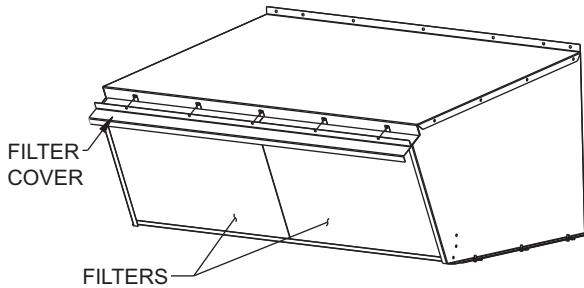

Fig. 37 — Slide Two Filters
14. Slide two 20 x 25-in. filters into cross members of hood assembly. Attach filter cover over filters with screws and speed clips provided. See Fig. 37.